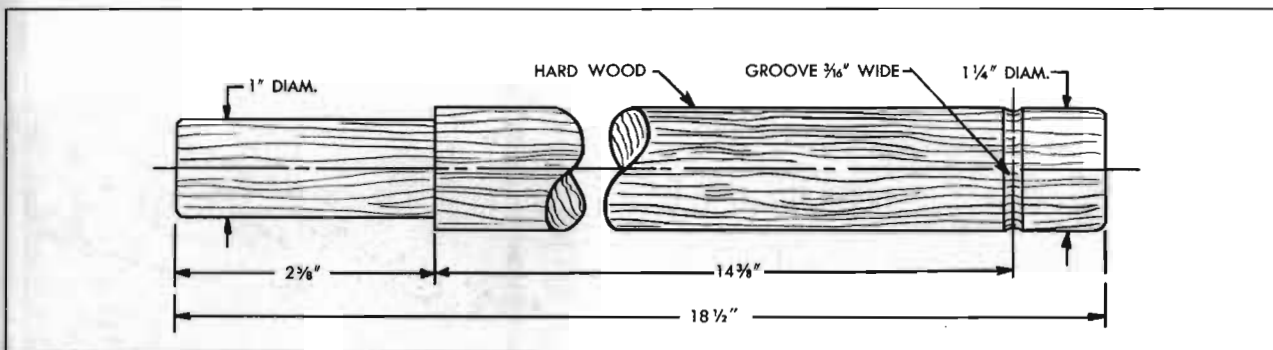

Figure 4-23—Club for Adjusting Torque Ball
11. Prepare a hardwood club for adjusting torque ball as shown in figure 4-23.